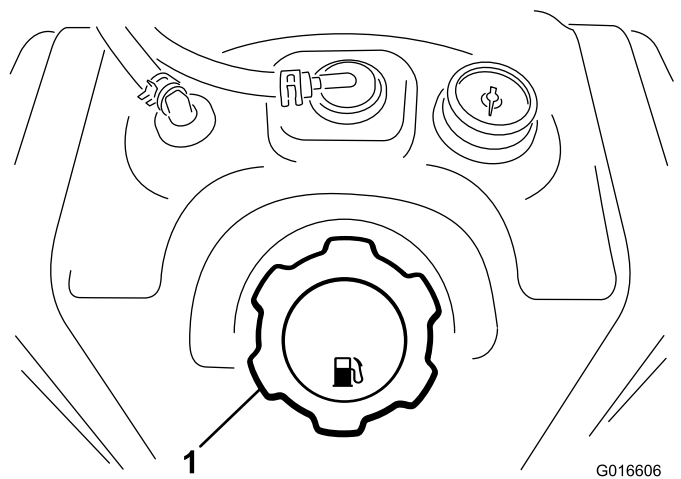

Figure 7
3. Clean around the fuel tank cap and remove it (Figure 7).